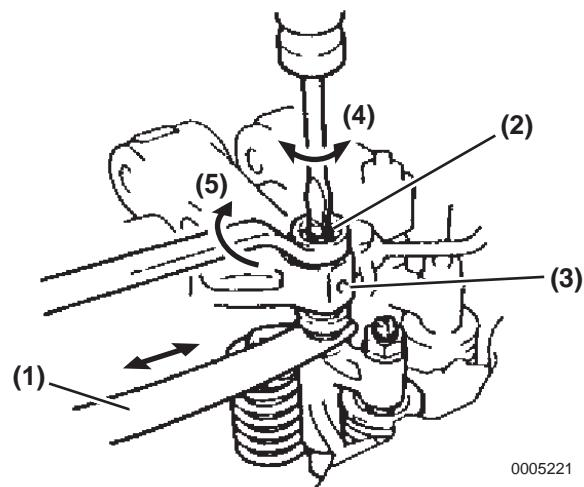

Figure 5-222
3. Insert a 0.20 mm feeler gauge **(Figure 5-222, (1))** between the adjusting screw **(Figure 5-222, (2))** on the valve rocker arm **(Figure 5-222, (3))** and the valve bridge for the intake side and a 0.50 mm feeler gauge **(Figure 5-222, (1))** for the exhaust side.
4. Turn the adjusting screw **(Figure 5-222, (4))** on the valve rocker arm, slightly slide the feeler gauge, and lock **(Figure 5-222, (5))** the adjusting screw by the lock nut.